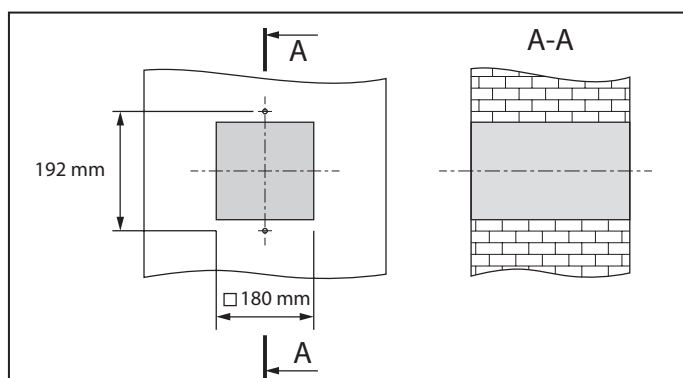

Fig. 9. Size of the core hole
1. Prepare a square core hole through the outer wall. The size is shown in Fig. 9. Prepare two holes for the dowels 5x25 and insert dowels in the wall. While mounting several connected in series units provide a recess for the cable layout during the hole preparation to enable series connection of several units.